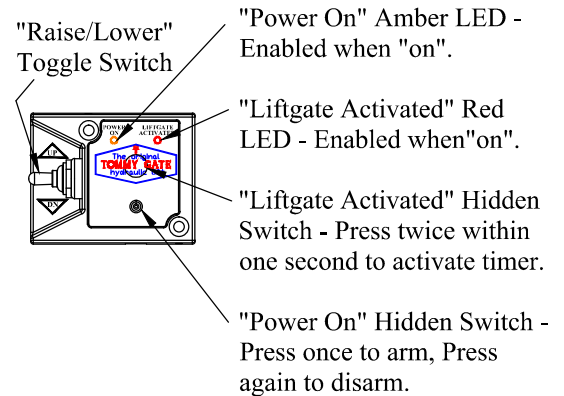

Figure 23: Control terms.
4. To turn the control power on, press the "POWER ON" hidden switch once, marked with white rings or circles (located below the Tommy Gate logo). You should see the amber LED "POWER ON" light when the control is armed. To disarm the control press the "POWER ON" hidden switch again. Terms used for the control are shown in (Figure 23).